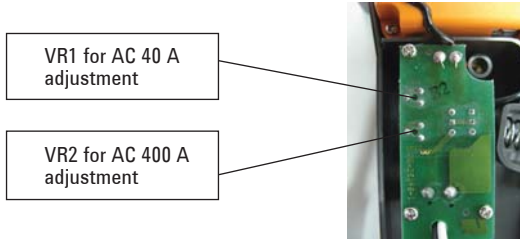

Figure 2: U1583B Current Clamp Circuit Board Diagram
2. Connect the output BNC of U1583B to a BNC-to-dual banana converter plug and proceed to connect it to the output of the V (HI) and COM (LO) terminals of the multi-meter.
6. Remove two Phillips screws on the back of the current clamp and proceed to adjust the VR2 until the display on multimeter indicates AC 200 mV \pm 0.2 mV. Please refer to Figure 2 for the position of VR2.